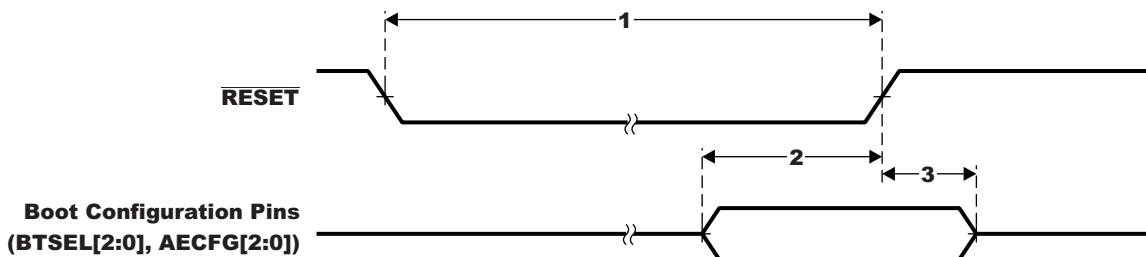

Figure 7-4. Reset Timing
Table 7-2. Timing Requirements for Reset (1) (2) (3) (see Figure 7-4)